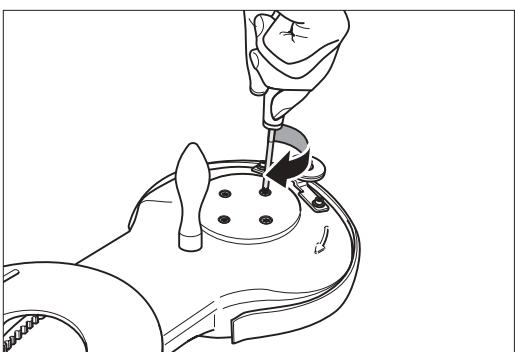

Fig. 75: Using the countersunk screws to tighten the bearing unit of the sanding disc wheel.
- 20 Screw the countersunk screws on the attachment into the bearing unit of the sanding disc wheel (Fig. 75). Make sure that the bearing unit is correctly seated in the attachment. Then tighten the countersunk screws firmly.